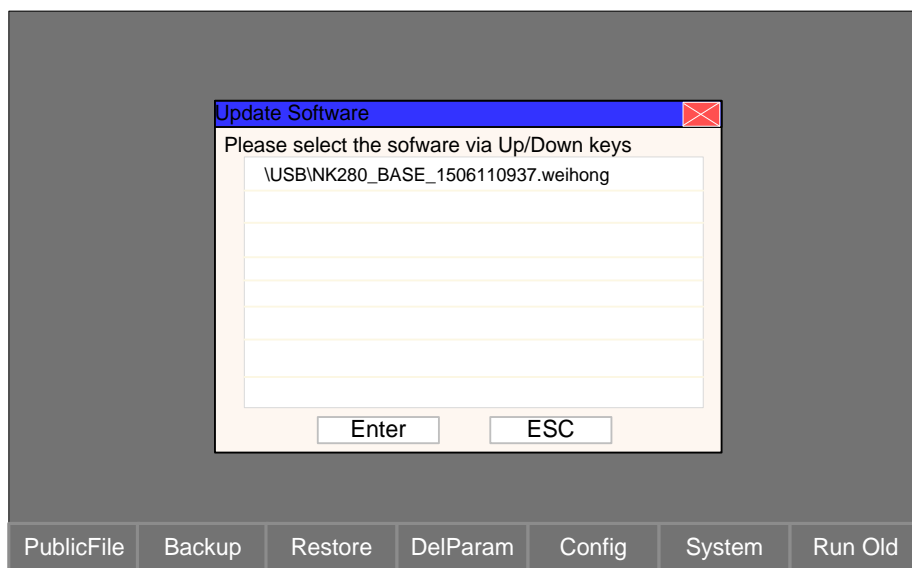
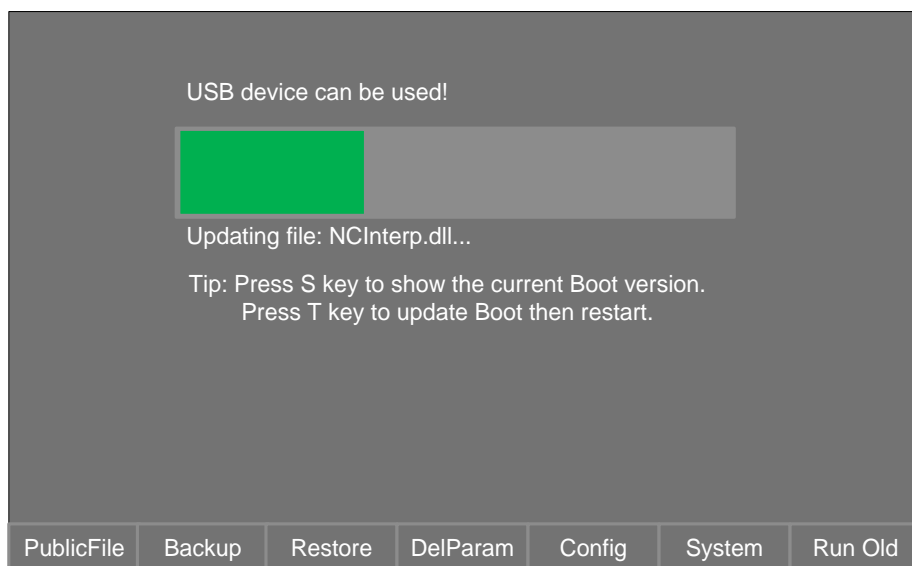

Fig. 5-3 USB list
Fig. 5-4 Software updating process
- 3) In the popup USB list, as shown in Fig. 5-3, select the software to be installed, and press F6 to update the software, with processing bar indicating the installation progress, see Fig. 5-4.